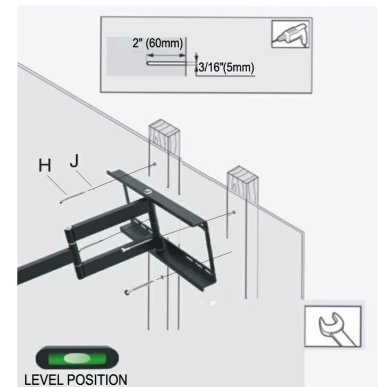

Figure 1
- 1 Use a high-quality electronic stud finder (commercially available) to locate dead center of two studs and mark their locations with a pencil (Figure 1).
- 7 For each location, insert a bolt (H) and washer (J) into the wall.